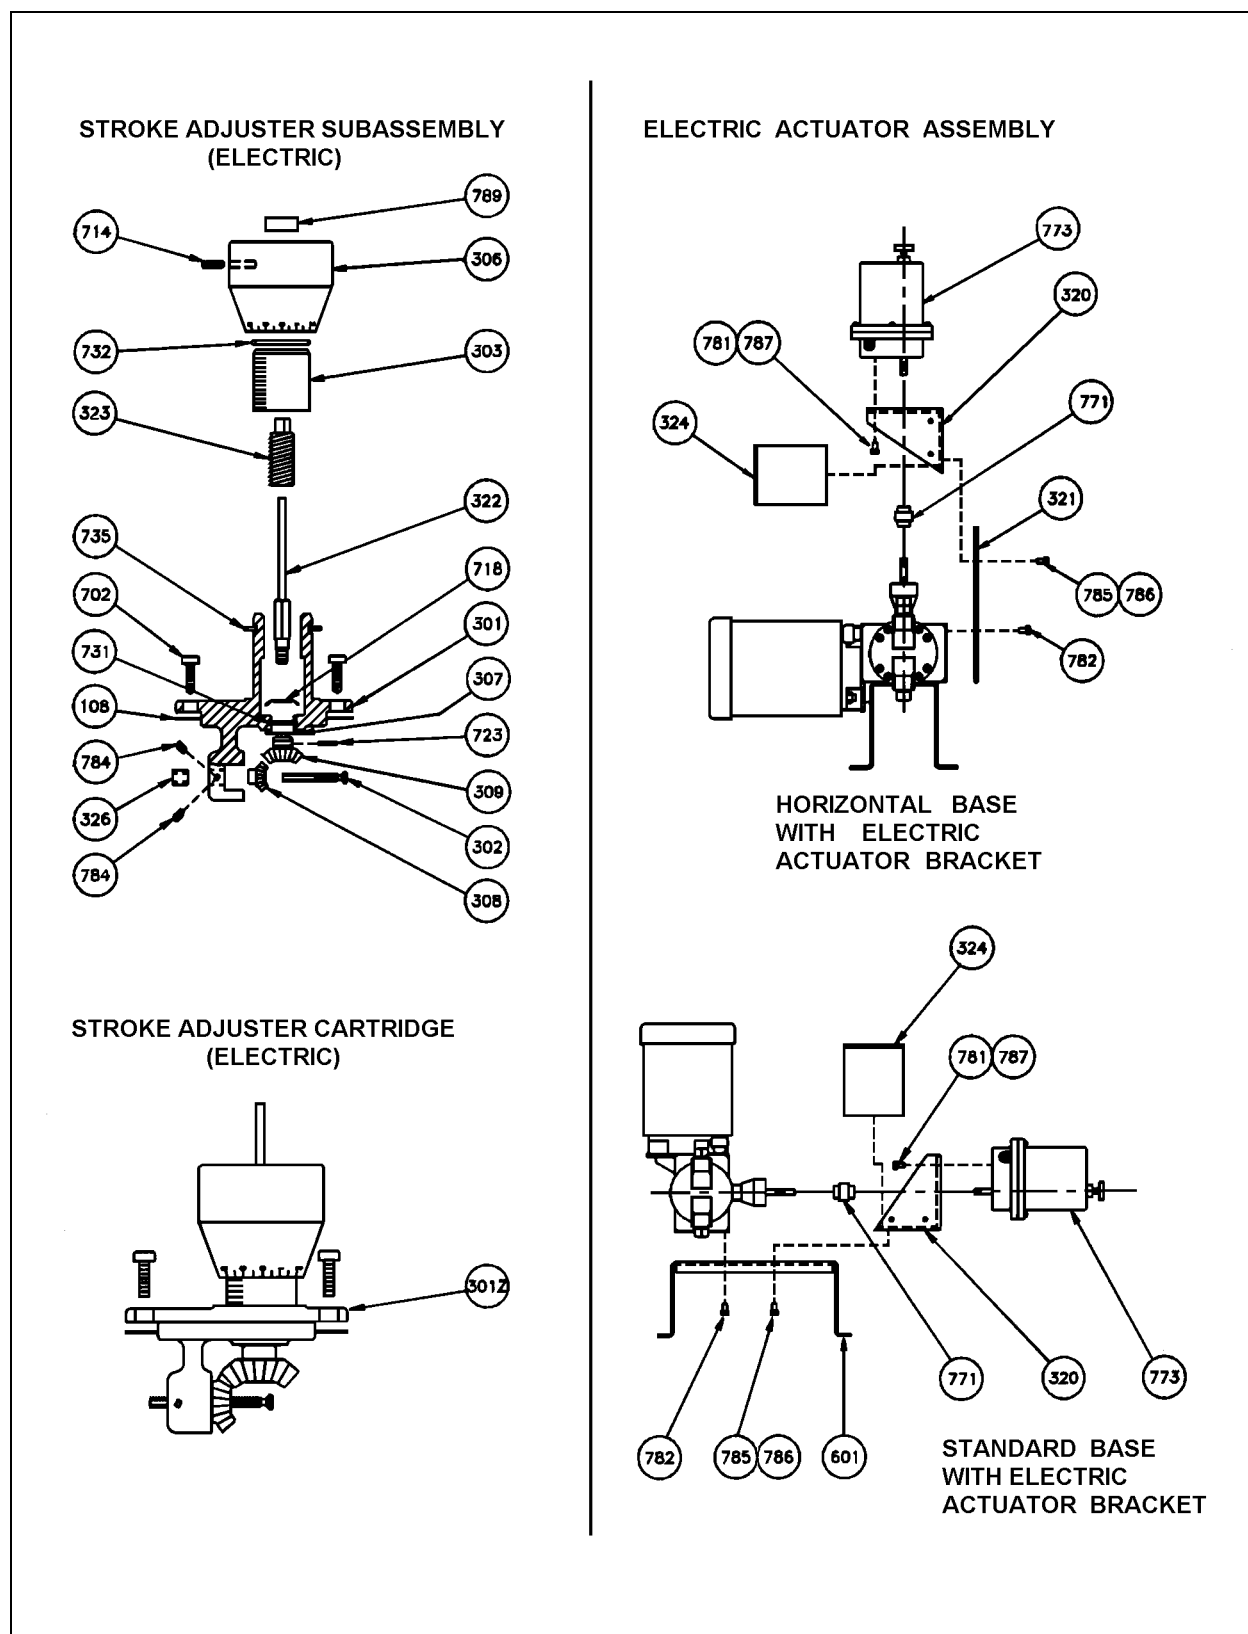

Figure 56. Electronic Stroke Adjuster Assembly.
6.23 ELECTRONIC STROKE ADJUSTER ASSEMBLY (FIGURE 56)